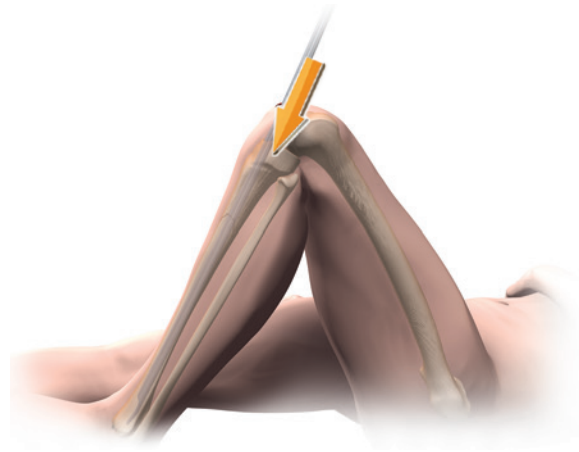

Figure 13
6. Advance the Reducer into the intramedullary canal (Figure 13).